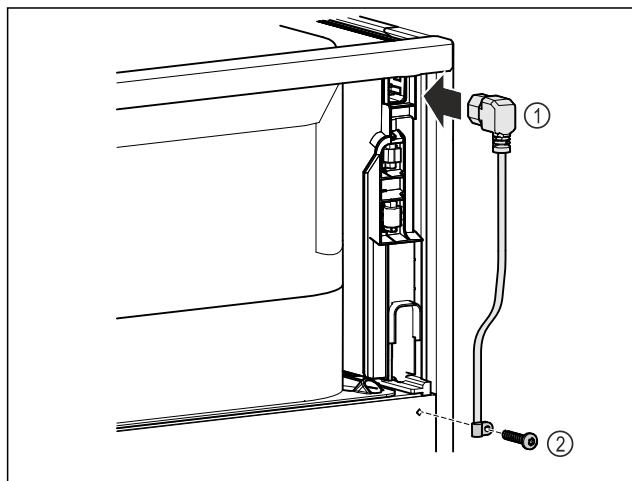

Fig. 9
- ▶ IEC socket of the power cable Fig. 9 [1] on the rear side of the appliance.
- ▶ Install mains tension relief. Fig. 9 [2]